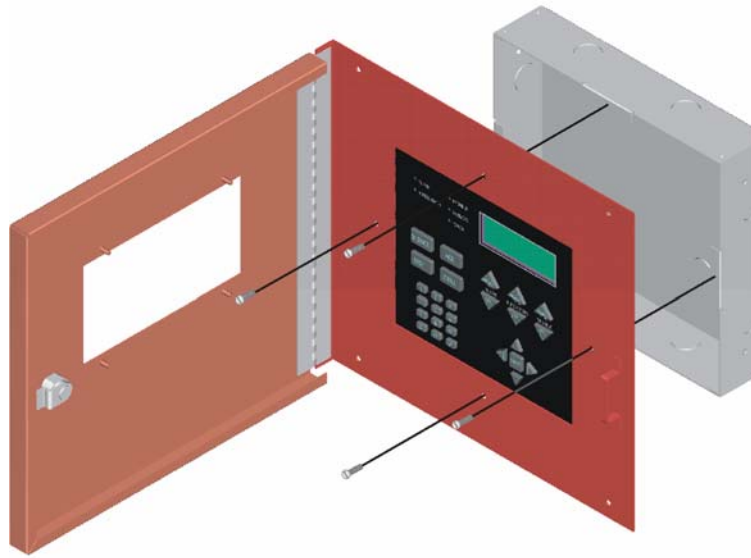

Figure 4-14 Attaching Annunciator/Door Assembly to Backbox
4. Attach the annunciator and door assembly to back box as shown in Figure 4-14 using the supplied screws.
- Attach the annunciator and door assembly to back box as shown in Figure 4-14 using the supplied screws.